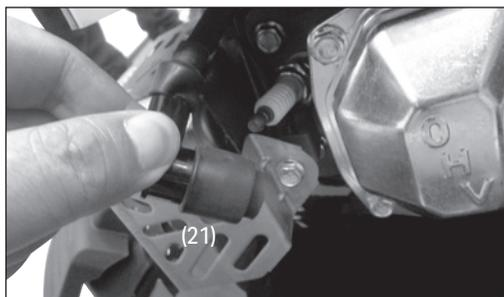
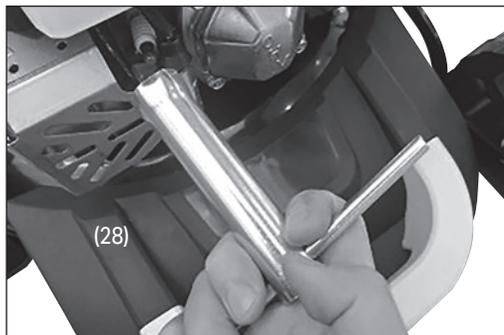

Fig.25
Fig.26
8.5 Spark Plug Care (Fig.25 – Fig.26)